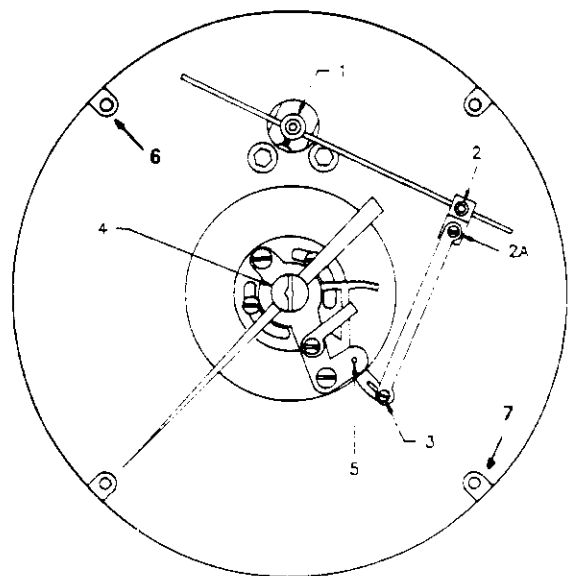

FIG. 16 INDICATOR ASSEMBLIES
5. Set movement; if movement is not clean, immerse in cleaning solution. Align movement in case by projecting a line through top left and bottom right dial mounting screws (Fig. 16, points 6 and 7) and resting extreme lower edge of brass bushing in sector gear (Fig. 16, Point 5) on that imaginary line. Proper hairspring tension is obtained by disconnecting gear sector from pinion (after unfastening movement linkage arm) and unwinding the spring (counterclockwise) approximately 1 turn; engage sector to pinion and release (pinion should rest at upper spline of sector). Refasten to linkage; point 3 should be in the center of sector slot, and point 2 should be approximately .960" (for 3" and 4-1/2" indicators) or 1-3/4" (for 6" indicators) from point 1.
6. Apply 50 percent of full-scale differential pressure to the high pressure connection, with the low-pressure connection left open to atmosphere. A line drawn thru points 1 and 2A should be parallel to a line drawn thru points 3 and 4. (See Fig. 16). Alternately, a line from point 1 and 2 should be at 90° to a line from point 2 to 3. DO NOT change these angles significantly once they are set.
12. If fast at 80%, slow at 20% and below zero, move sector gear linkage (See Fig. 16, Point 2) out. If slow at 80%, fast at 20%, and above zero, move linkage in. Only very slight movements are required.
13. If indicator reads correctly at 20%, 50%, and 80% but above zero, apply more tension on the hair-springs, or adjust movement counterclockwise; if below zero, decrease tension or adjust clockwise. (Disconnect the linkage on Fig. 16 at Point 2, rotate the sector gear until clear of the pinion gear; then, by rotating the pinion gear slightly, increase or decrease the tension as needed, clockwise to increase and counterclockwise to decrease (See #5).